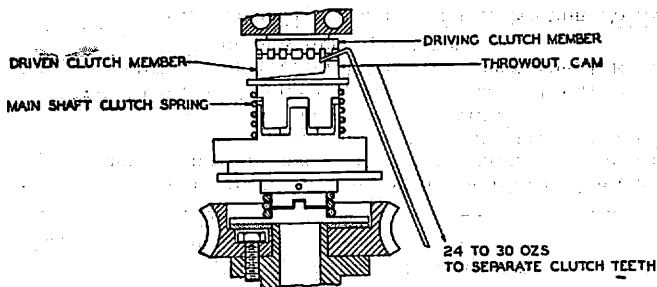

Fig. 2
4.04 **Main shaft clutch spring:** A pull of 30 ozs. applied to driven jaw of clutch as in Fig. 2 shall separate clutch teeth when tips of teeth are resting against each other. A pull of 24 ozs. similarly applied shall not separate clutch teeth.